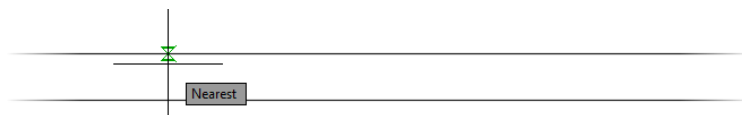

FIGURE 7.25: Starting the line by using the Nearest osnap
- Move the cursor to the upper wall line, a little to the left of the center of the screen, and with the hourglass-shaped marker displayed as shown in Figure 7.25, click.